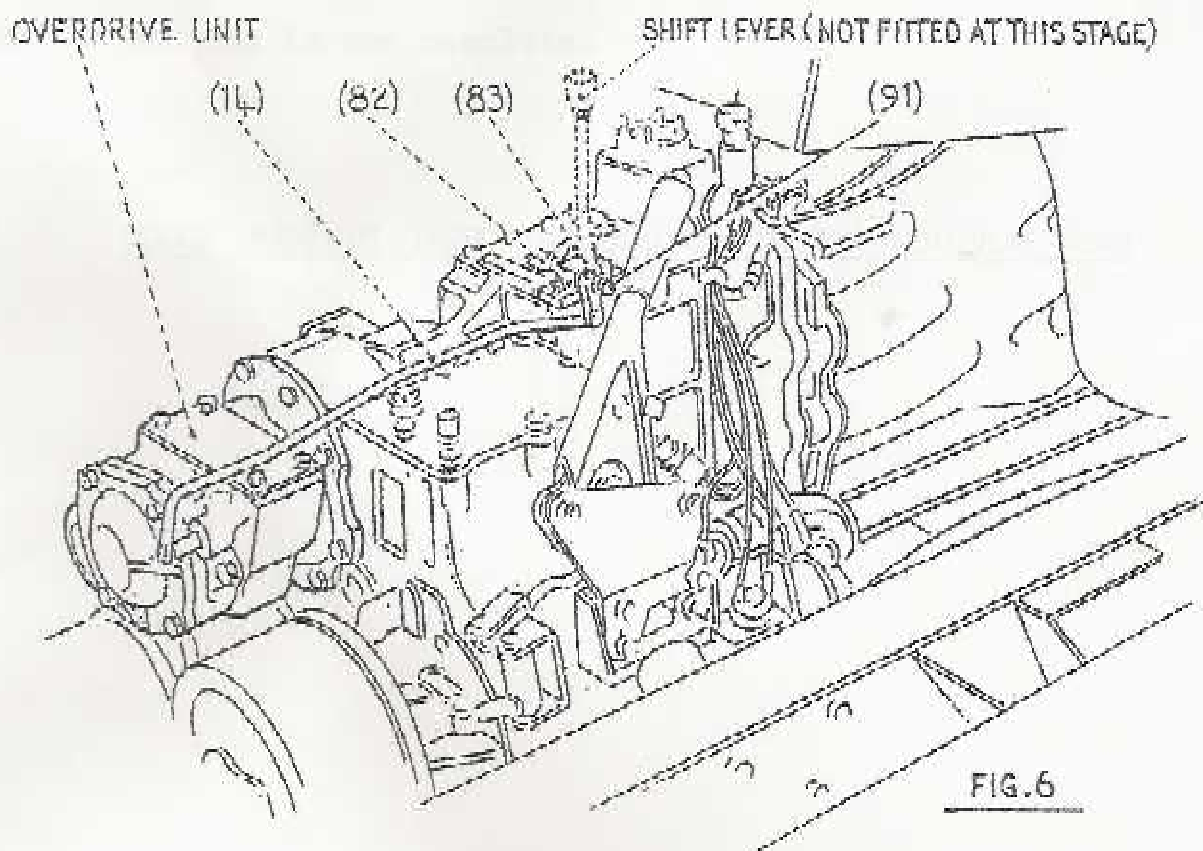

FIG.6
34. Assemble Link Rod (14) to Pivot (83), using items (5), (6), (8) and (9) with a smear of grease on the moving surfaces.
35. Feed pivot, (83) through centre seat access hole and between gearbox/transfer box and transmission tunnel into position on bracket, (82).
36. Smear grease on main diameter of Shoulder Bolt (91).
37. Fit pivot, (83) to bracket, (82), with Bolt (91) through 51 mm diameter hole in transmission tunnel. This assembly is shown with bodywork removed for clarity, Fig 6.